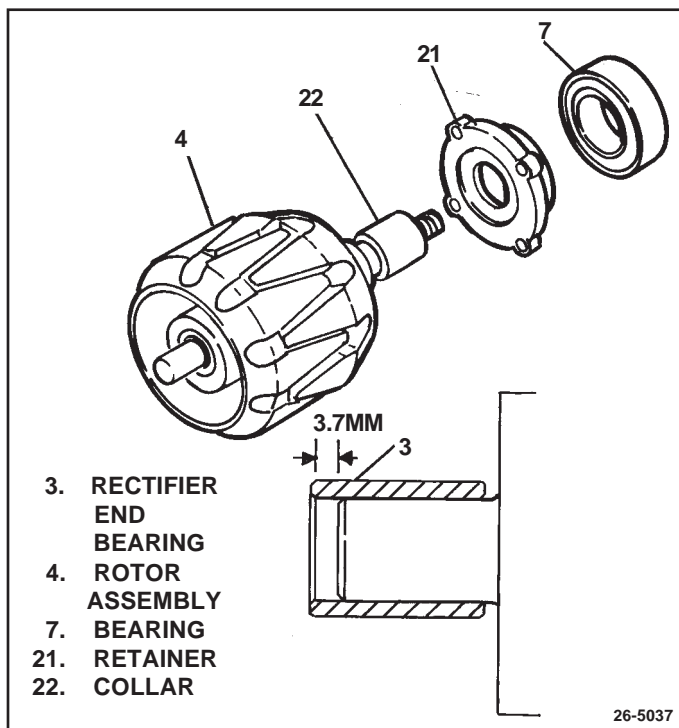

Figure 29. Rotor Assembly
1. Press inner race for rectifier end bearing (3) onto short end of rotor shaft. Stop when race is 3.7 mm (.15 in.) above end of shaft. (See Fig. 29)
2. Press inside collar (22) onto rotor shaft until collar is against shoulder on rotor (4). (See Fig. 29) Place retainer plate (21) onto collar (flanged side of retainer will face away from rotor, toward bearing). Using open tube that bears only on inner race of bearing, press new DE bearing onto rotor shaft until bearing is against collar.